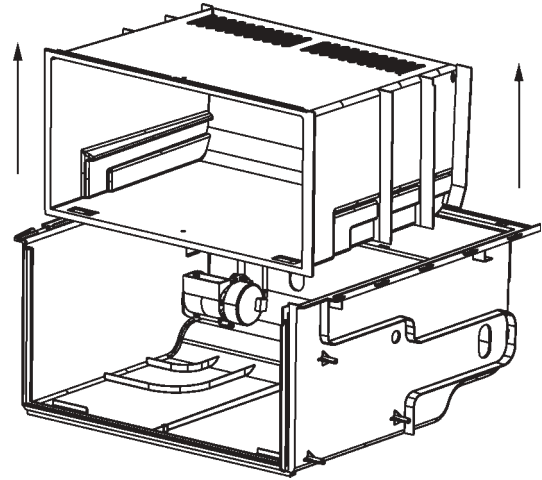

Figure 2-15
5. Remove the inner enclosure. (See Figure 2-15)